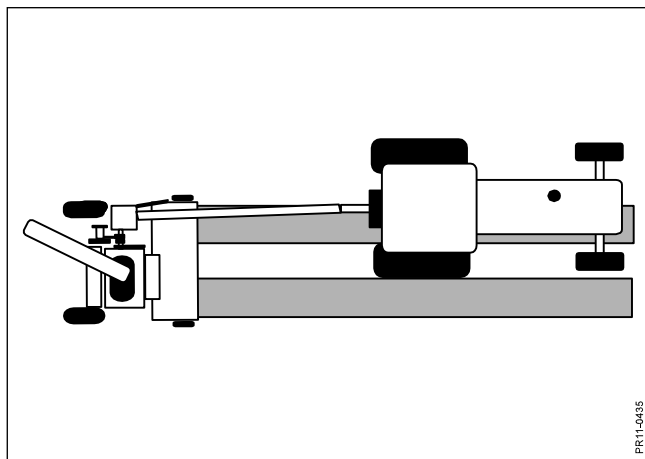

Fig. 6-10
- Fig. 6-10** 2) The forage harvester is now working in a semi-offset position, as the tractor is being driven with one set of wheels between the swaths. This technique results in an even row line, and is suitable for loading on both sides. The parallel tractor being driven to the left can get closer to the forage harvester and it is easier to position the trailer in relation to the crop row.